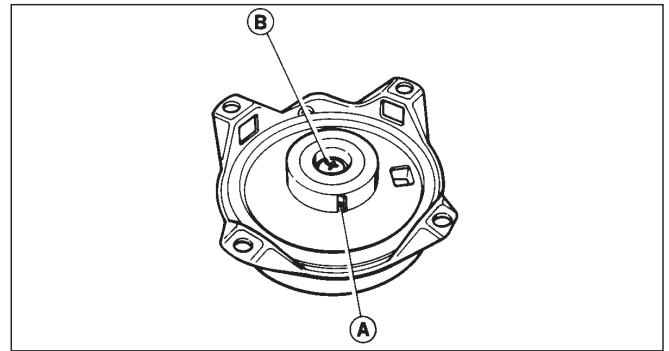

Fig. 1
- That dog **A** (Fig 1) protrudes when the rope is slowly pulled. If the rope cannot be pulled, check the retainer hub locking screw **B** for correct tightening torque, which should be kgm 0.5 - 0.6 (45/55 inch lbs).
- If, after correct tensioning of screw **B** (Fig 1), the dog does not function, disassemble the starter as follows, referring to exploded view shown in Fig 2.